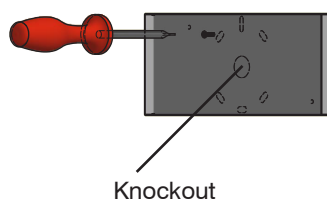

Figure 4
If surface conduit wiring is being used, knockout appropriate sized hole by the side or top of power pack to fit conduit connector (figure 4).
2. Knockout center hole at the top of power pack for pendant mounting (figure 4).